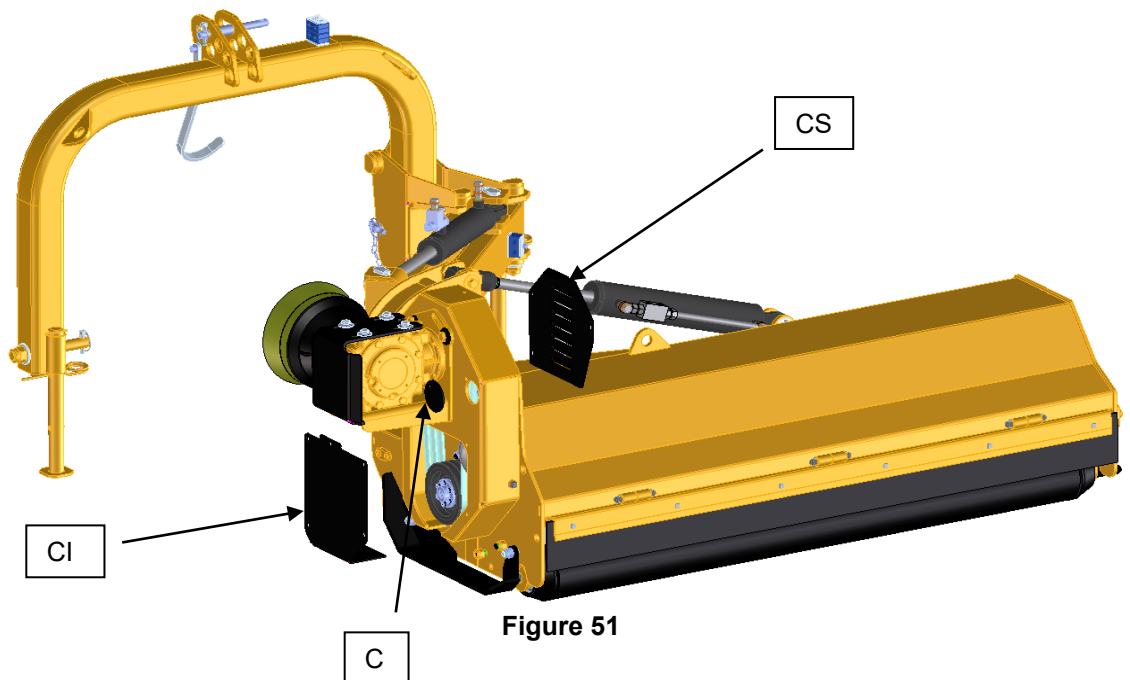

Figure 51
1. Remove the small cap C, the lower crankcase CI and the upper crankcase CS of the transmission cover (figure 51);